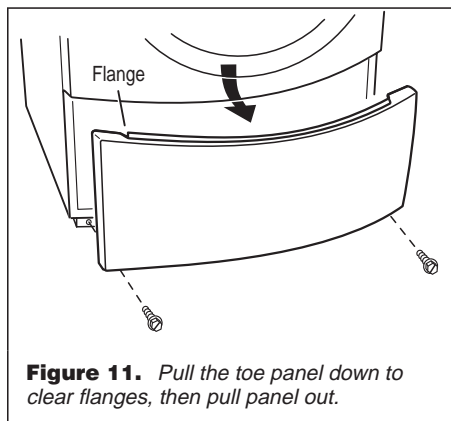

Figure 11. Pull the toe panel down to clear flanges, then pull panel out.
2. Slide the toe panel down, then pull it out from the bottom. See figure 11.